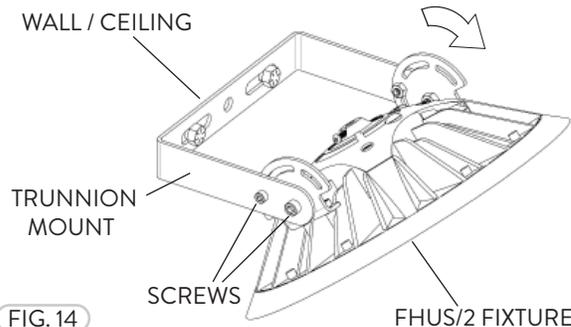

FIG. 14
- 5 Instead of having the fixture directly surface mounted to a fixed position, the FHUS/2 fixture can be adjusted by loosening the screws (4) at the sides of the Trunnion Mount. Rotate the FHUS/2 fixture to the desired tilt angle to aim at a specific position (Fig. 14). Tighten the screws to firmly tighten the FHUS/2 fixture to the Trunnion Mount (Mounting Bolts not included).